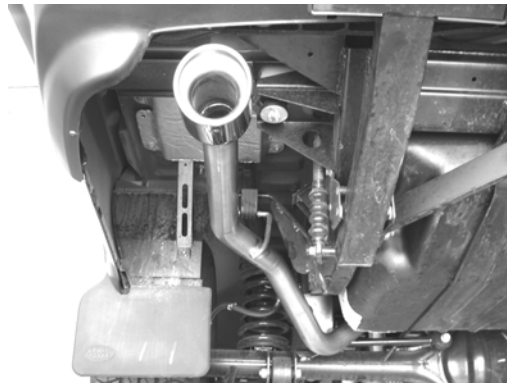

Figure 7
3. Place a clamp over the expanded end of the tail pipe assembly and set it into position as shown in figure 7 installing the hanger into the rubber bracket.